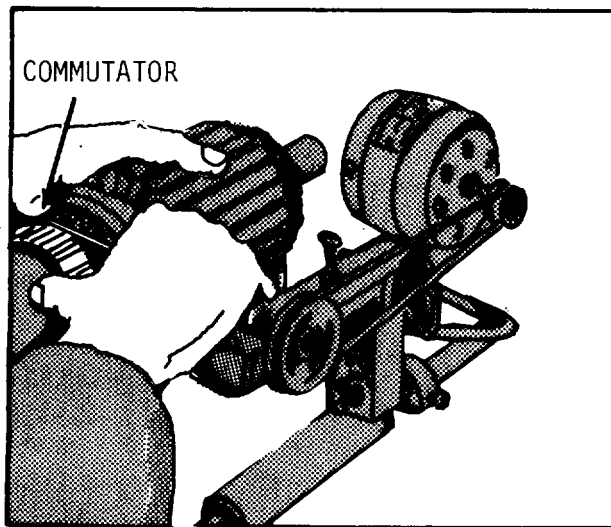

Figure 5-14. Undercutting mica between commutator bars.
(1) After commutator surface has been renewed, measure depth of mica below surface, If this depth is less than 0.25 inch, undercut mica with power-driven, mica undercutting tool, using cutter that will produce groove 0.052 inch wide. Cut to a depth of 0.032 inch deep (fig. 5-14).